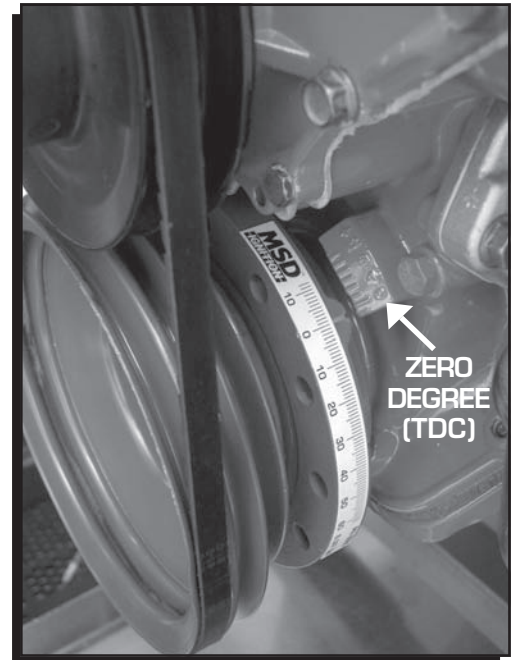

Figure 8 The Timing Tape Installed.
3. Choose the timing tape that matches your balancer's diameter. Be sure that the mating surface is clean of any dirt, grease or debris. Locate and note the 0° mark on the timing tape (Figure 8).